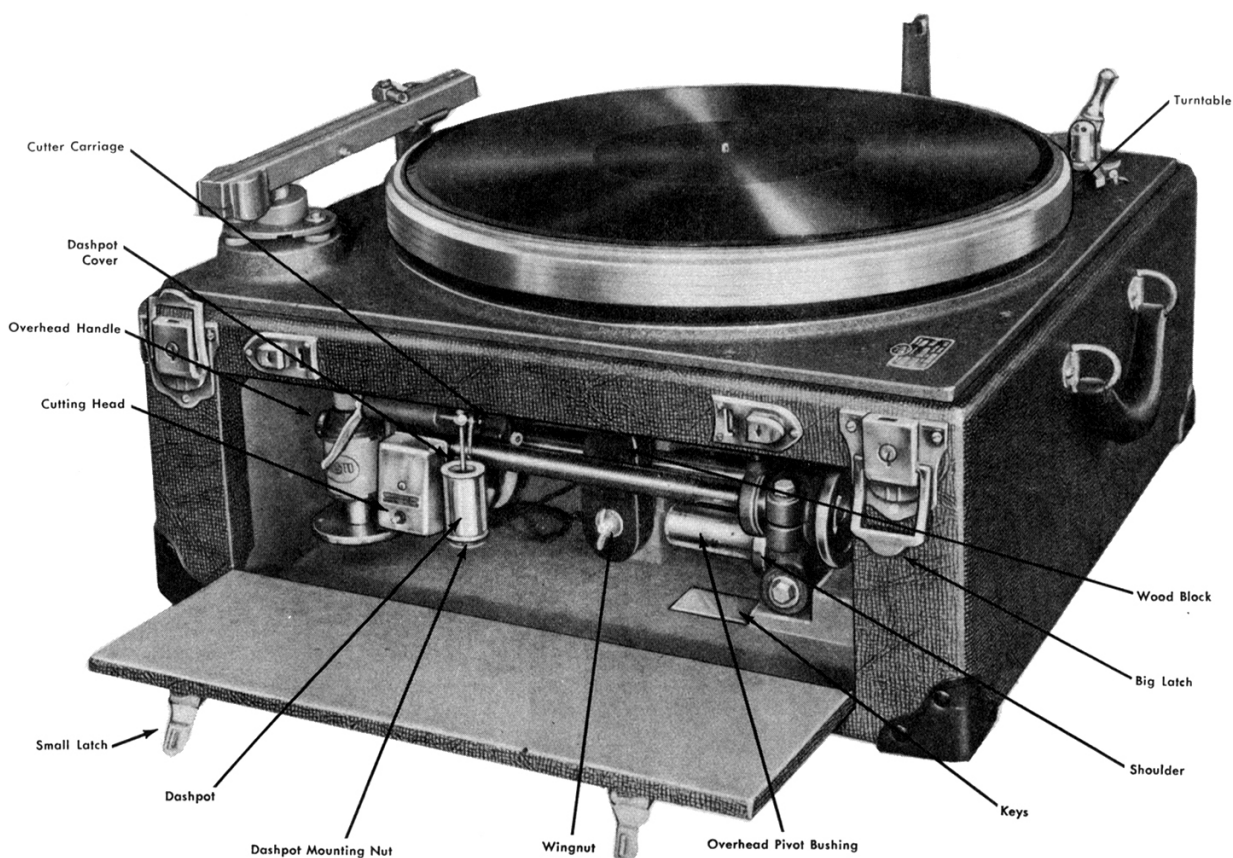

Figure 2. 6N Turntable Unit in portable carrying case
- e. Loosen the wingnut so that the wood block may be moved to a horizontal position (fig. 2). Carefully lift out the overhead cutter mechanism (see Overhead Mechanism, below) from the compartment.
- c. Turn the overhead pivot bushing (fig. 2) to a vertical position.